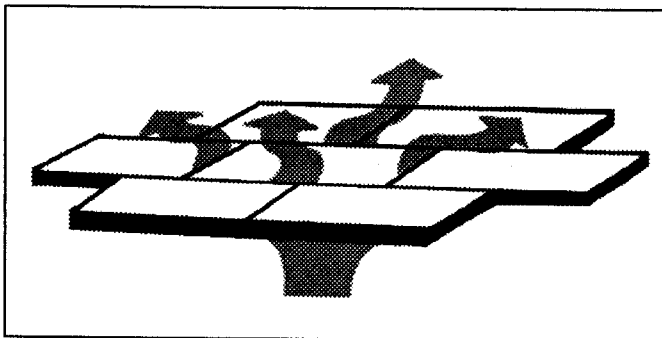

Figure 1: Thermal loss and a single layer of insulation.
1. *Thermal loss is reduced.* Thermal loss commonly occurs through gaps at the boards' joints (see Figure 1). The paper "Thermal Evaluation of the Effects of Gaps Between Adjacent Roof Insulation Panels," which was published in *Proceedings: DOE [Department of Energy]-ORNL [Oak Ridge National Laboratory] Workshop on Mathematical Modeling of Roofs*, reveals reductions in overall thermal efficiency by as much as 10 percent